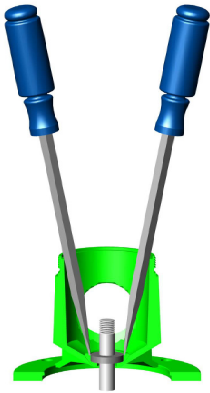

Figure 17 - Remove Mechanical Seal
To disassemble the pump, refer to the exploded parts view and Figures 17, 18 & 19
- b. Using two (2) screwdrivers, pry the ceramic seal and rubber gasket from the recess of the mounting ring (See Figure 17).